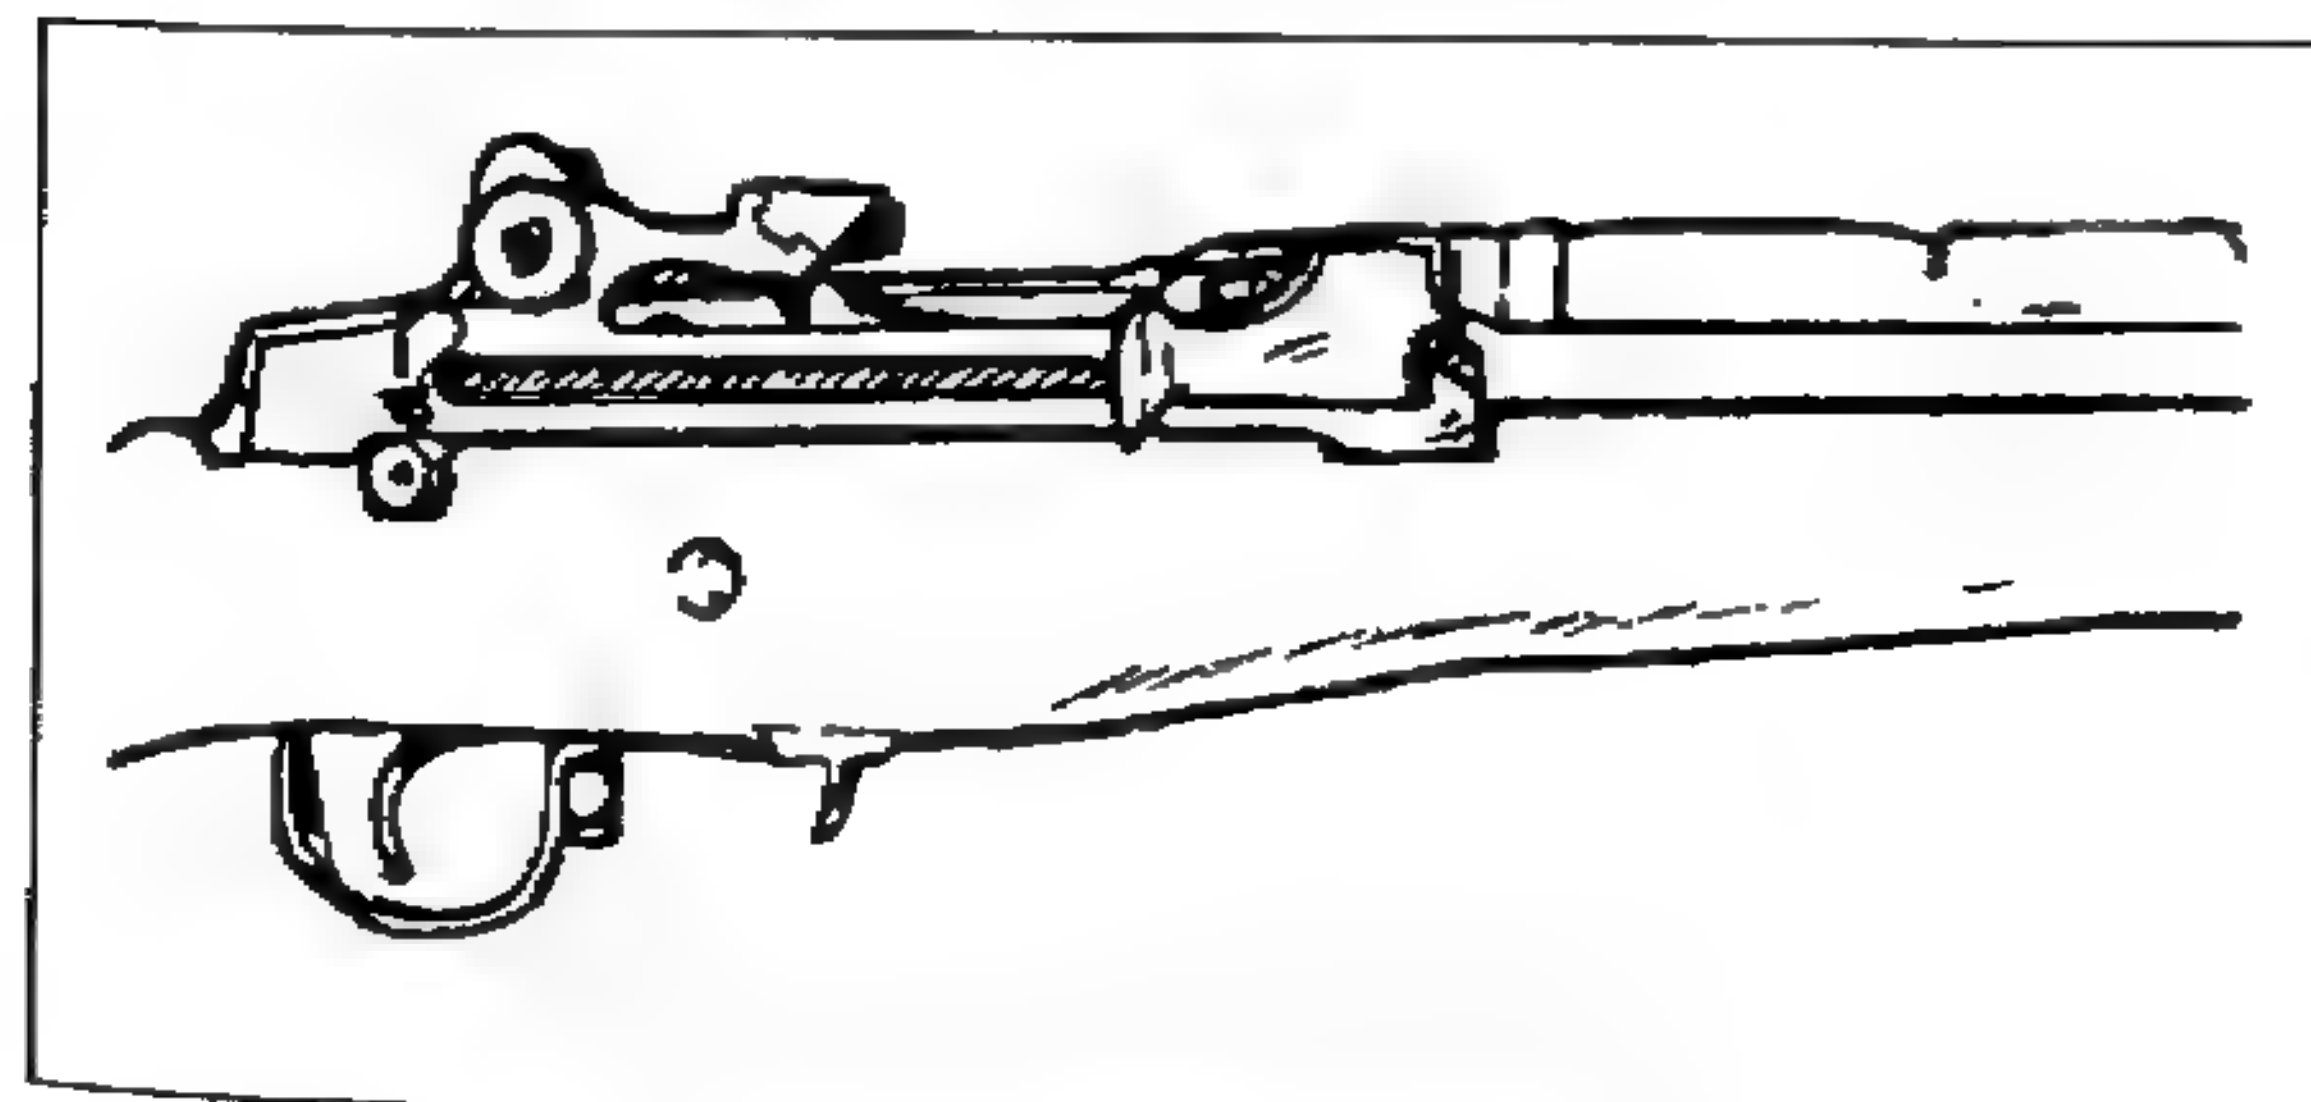

Figure B-2. M21 chamber.
- (1) Wipe old oil, grease, and external dirt from the weapon.
- (2) Clean the bore by placing the weapon upside down on a table or in a weapon cradle. Then, push a bore brush dipped in bore cleaner completely through the bore. Remove the bore brush and pull the rod out. Repeat this process four or five times.
- (3) Clean the chamber (Figure B-2) and bolt face with bore cleaner and a chamber brush or toothbrush.